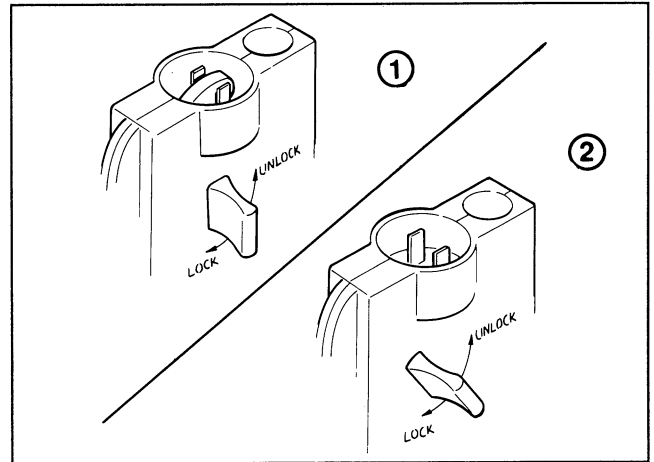

Figure 6
3. To unlock the snowthrower, push key into the hole (Fig. 6). While holding key down, turn key counterclockwise. Interlock tab rotates away from prongs, allowing extension cord to be plugged in (Fig. 6). Do not attempt to remove key when in the unlocked position.
4. Lock snowthrower cord when unit is not being used. Remove cord and push key into hole. While holding key down, turn key clockwise, and remove key (Fig. 6). Store key in a memorable place.